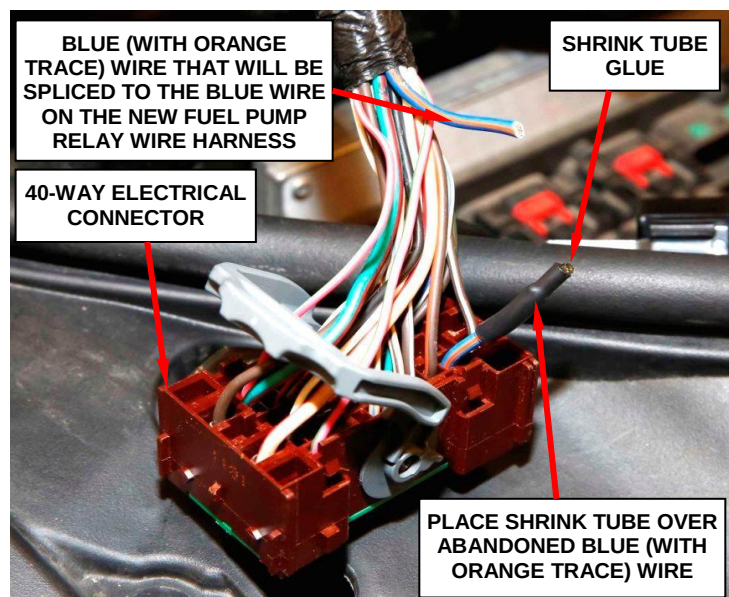

Figure 13 – Cut the Blue (with Orange Trace) Wire
16. Cut the blue (with an orange trace) wire one inch (25 mm) from the 40-way electrical connector (Figure 13).
17. Install shrink tube to the connector side blue (with an orange trace) wire to insulate the wire end. This wire will no longer be used (Figure 13).